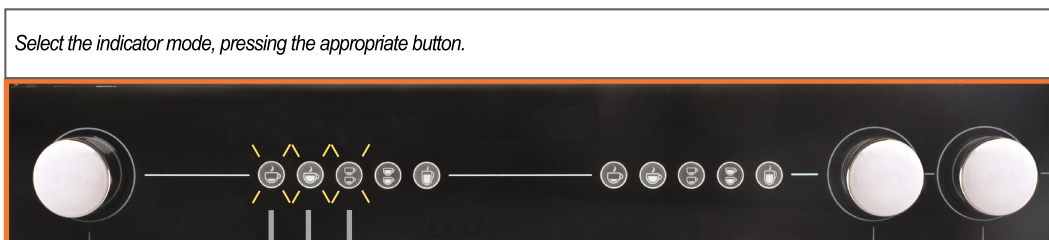

Figure 2.
4. Wait until the 3 touch-button LEDs from group 1 start to flash (see figure 2), indicating that you are now in touch-button indicator mode.